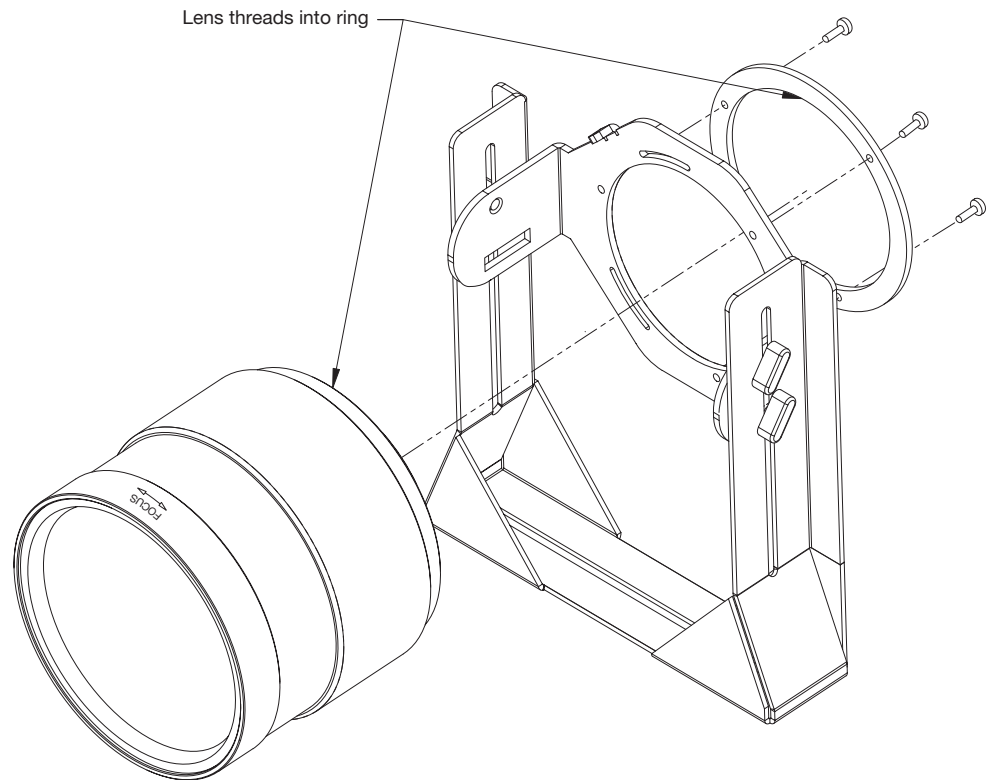

Figure 3-21. Attaching the Anamorphic Lens to the Lens Ring
4. Use the Lens Mounting Screws to attach the Lens Adapter Ring (item #1) to the Pitch Adjustment Yoke (item #2); see Figure 3-21. (Use the round, threaded holes on the yoke.)